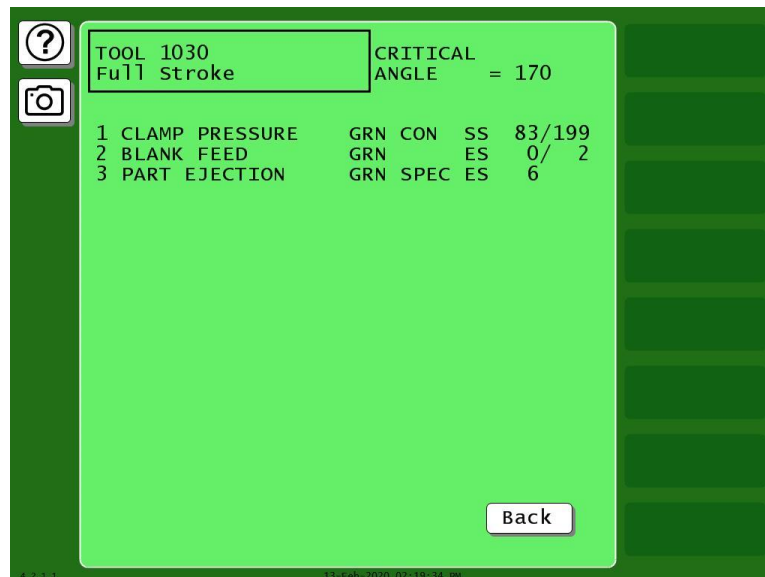

Figure 5-42. Sensor Summary Screen Showing Stroke Counts for Green Special Sensors
- When the Sensor Stop Type screen displays, select a stop type. The Sensor Summary screen, Figure 5-42, displays with the stroke count shown for each green special sensor programmed in the group of sensors 1-16.